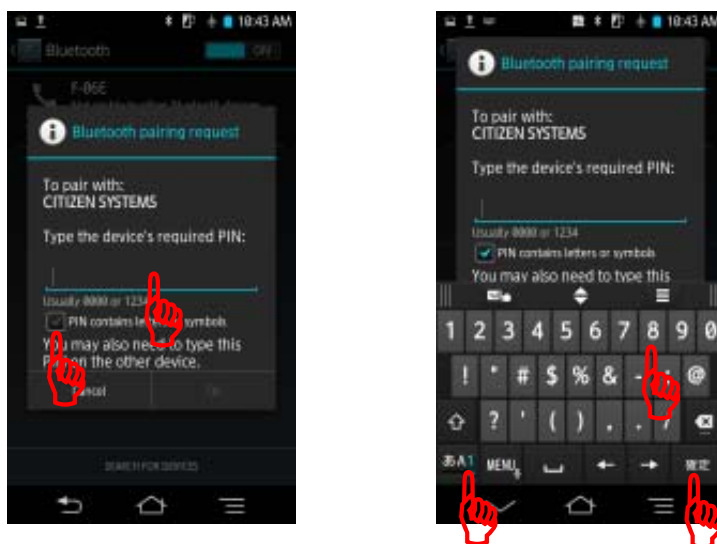

Figure 5-10 Pass key setup
- (4) Tap **[CITIZEN SYSTEMS]** in the device list displayed in the screen. Then Bluetooth pairing request screen shown in Figure 5-10 appears.